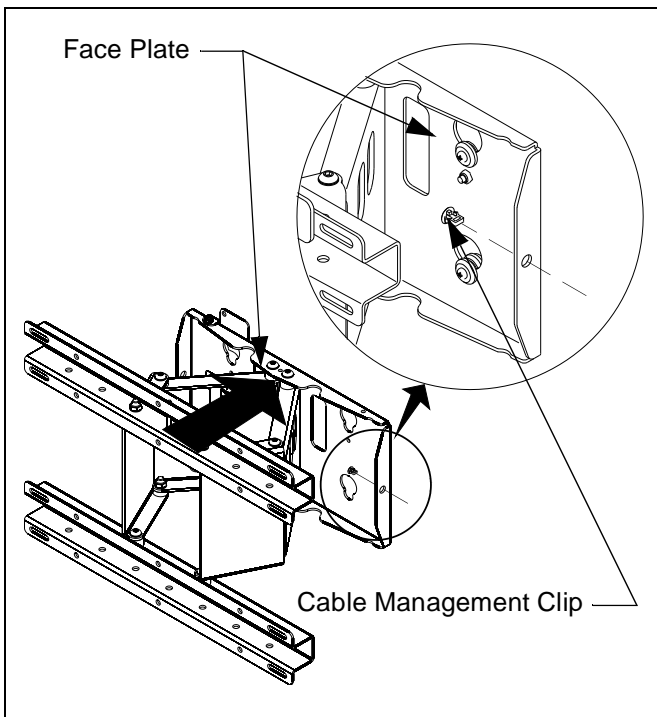

Figure 2: Install Cable Management Clips
2. Install two cable management clips (60) into each side of mount faceplate. (See Figure 2)